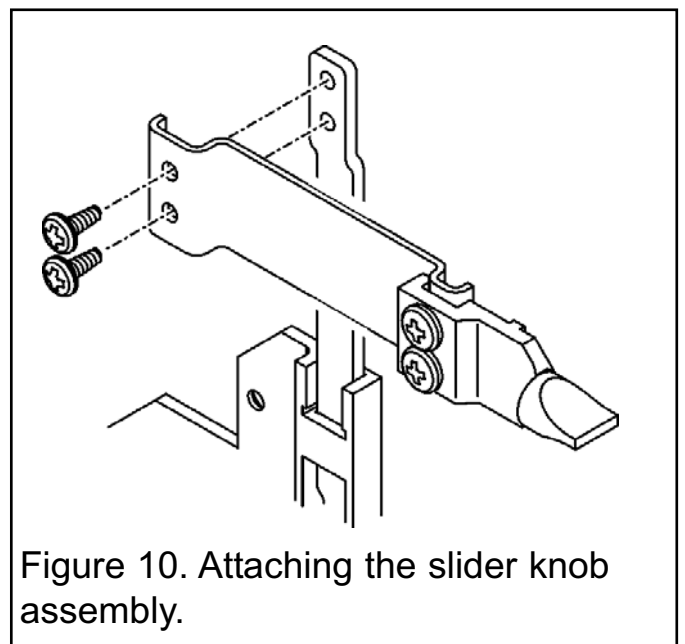

Figure 10. Attaching the slider knob assembly.
- Attach the slider knob assembly to the slider using two M4 x 10mm screws supplied (See figure 10).